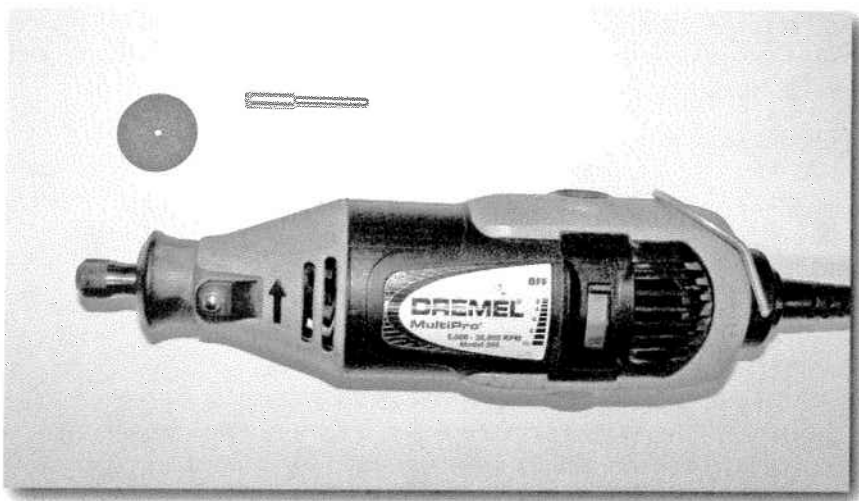

FIGURE 14-3: A Dremel® tool with an appropriate cutting bit.
- A Dremel® tool (or similar rotary cutting tool or other tool capable of cutting metal) as shown in Figure 14-3, with a metal-cutting bit and a sanding bit, available from most hardware stores (~\$40).